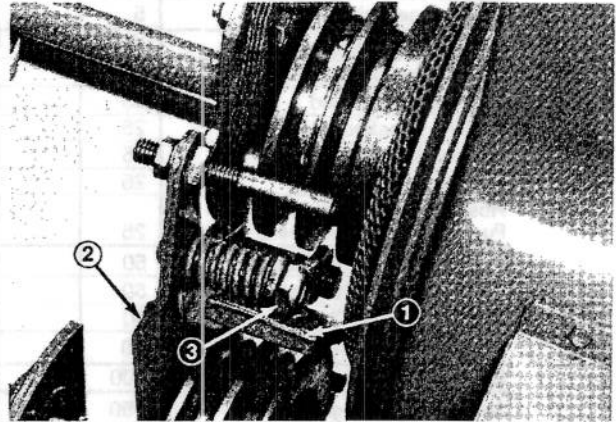

Figure 128
2. Inspect brake shoe and lining assembly for excessive wear or damage (Fig. 128) and replace if necessary. Remove assembly by removing locknut from mounting stud (Fig. 128).
4. Align PTO brake assembly with pulleys and belts and tighten mounting fasteners. Visually inspect alignment of brake lining with pulley. Lining should be parallel to pulley and centered over pulley grooves. Loosen and remove PTO brake bracket fasteners and add or remove spacers between the bracket and mounting plate to achieve a parallel adjustment. Adjust the locknut to center the lining assembly (Fig. 128).